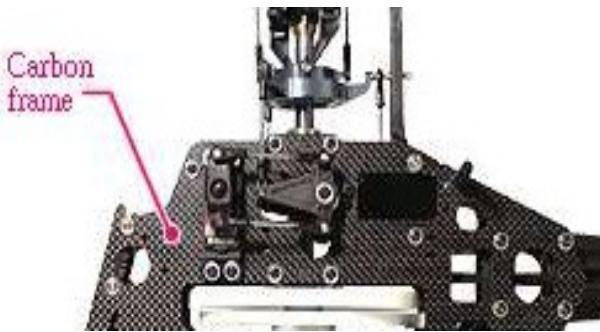
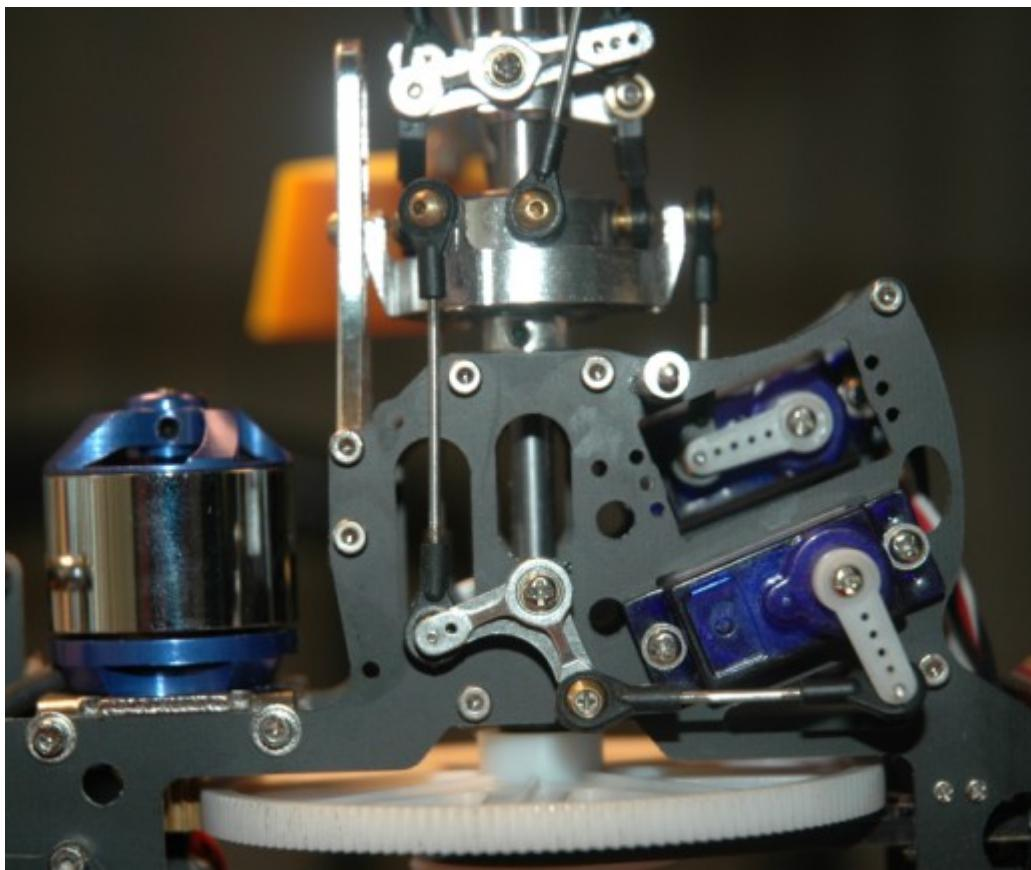

Fig 8
Fig 8b
*Note – some models arrange the servos in different locations and orientation. Some models such as the TREX 600 (Fig. 8) have intermediate pivot arms and double linkage rods. The Black Hawk 450 (Fig. 8b) uses intermediate pivot arms and angled servo mounts. The same basic concept applies. All cyclic linkages must be parallel to the main shaft and remain parallel throughout their entire range of